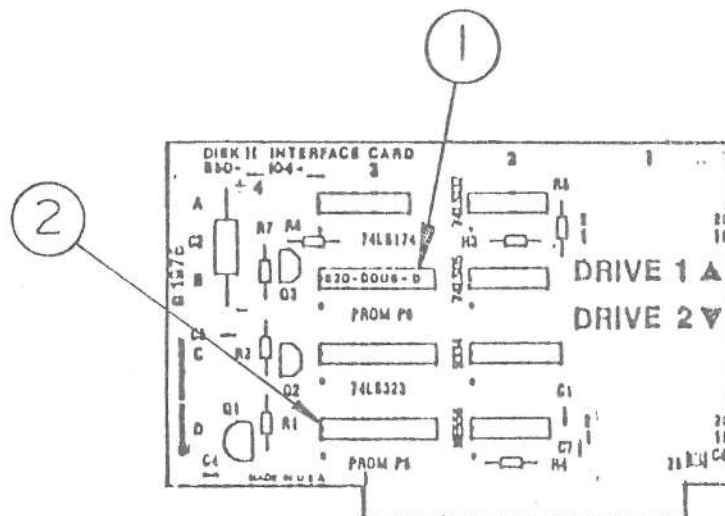

FIGURE 7
IPL.7	Disk Controller Card (Figure 7)
□ DISK CONTROLLER CARD (Figure 7)